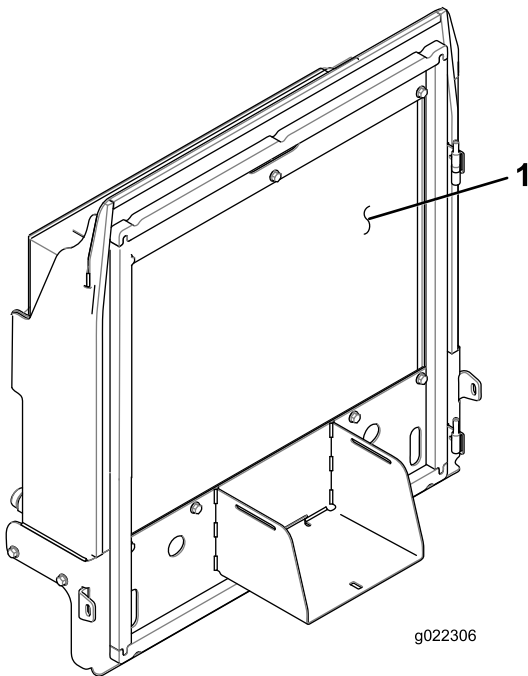

Figure 87
4. Thoroughly clean both sides of the radiator and oil cooler (Figure 87) with compressed air.